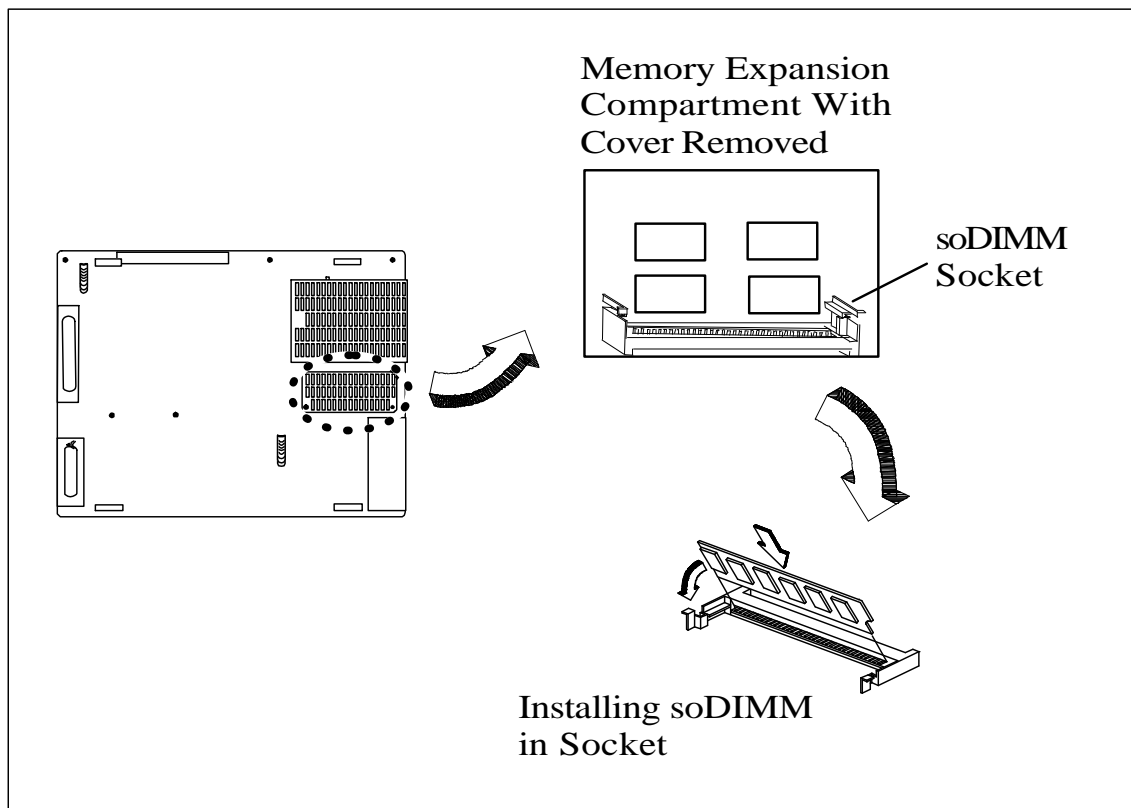

Figure 2-1 Memory Expansion Removal/Replacement
6. Refer to Figure 2-1. To install an soDIMM module, first align the connector edge of the memory module with the key in the connector. Insert the edge of the memory module board into the connector using a rocking motion to fully insert the module. Push downward on each side of the memory module until it snaps in place.